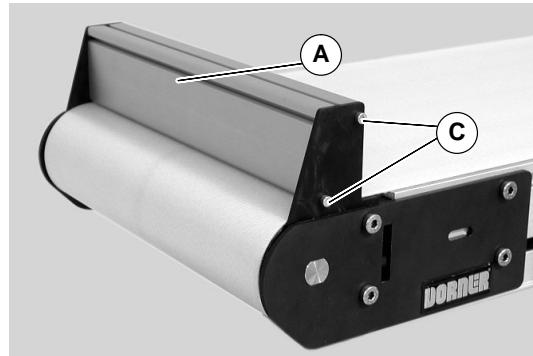

Figure 31
Periodically, remove two (2) set screws (C of Figure 31) on both sides of the conveyor and remove end stop (A). Clean any debris from between end stop and conveyor belt. Replace end stop (A).